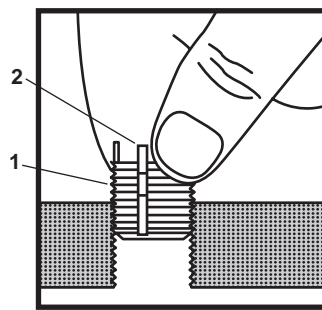
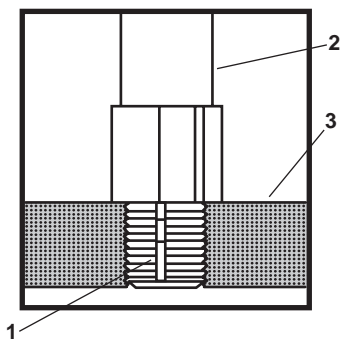

Figure 3. Installing the Insert
Figure 4. Drive Down the Keys
6. Thread the insert (figure 3, item 1) into the new threads until the top of the insert is slightly below the surface.
7. Drive down the keys (figure 3, item 2; figure 4, item 1) using the insert's installation tool (figure 4, item 2) or a round, flat driver. The keys should be flush with the surface (figure 4, item 3).